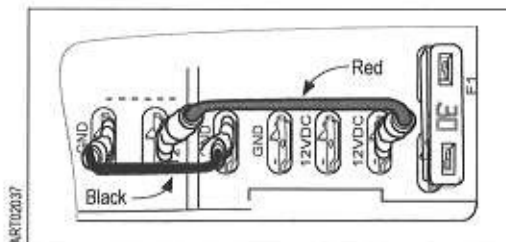

Figure 12. Jumper Connections
5. Reconnect the red and black jumpers from the power board to the defrost board. Refer to Figure 12.